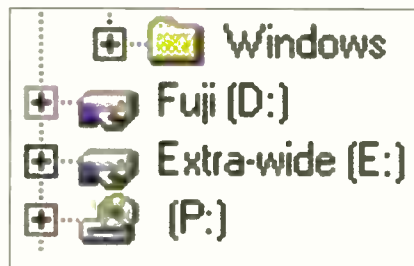

FIGURE 3: Named and Shared drives
To avoid dealing with their default "letter" assignments, it is more convenient to name hard drives. (Printers can also be named.) From the Windows Explorer, fig. 3 shows two drives (Fuji and Extra-wide) as well as the "share" icon. I have at least two drives in each computer, one reserved for the Operating System (OS) and programs and the other for files (MIDI, text, sound, database, etc.). In the